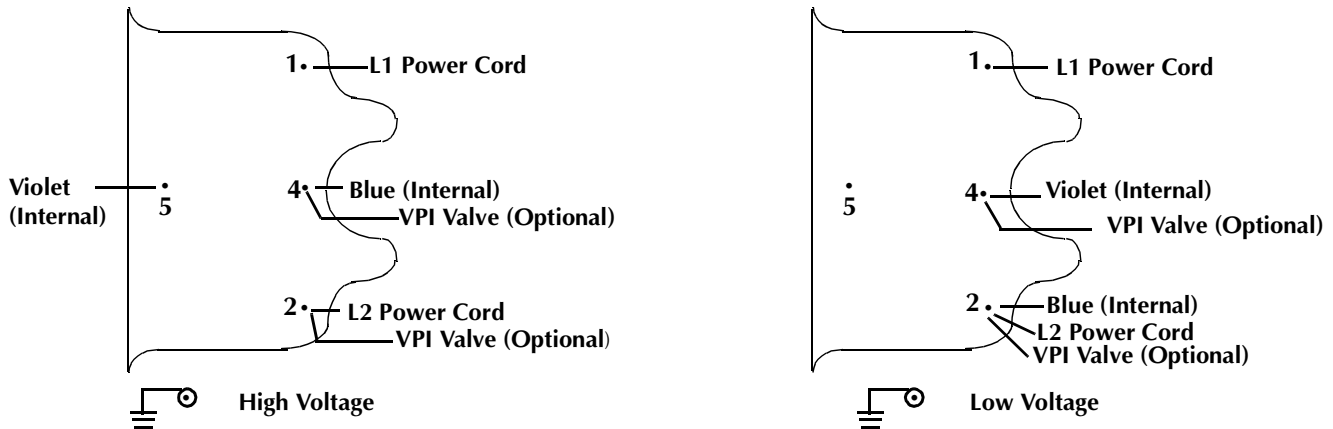
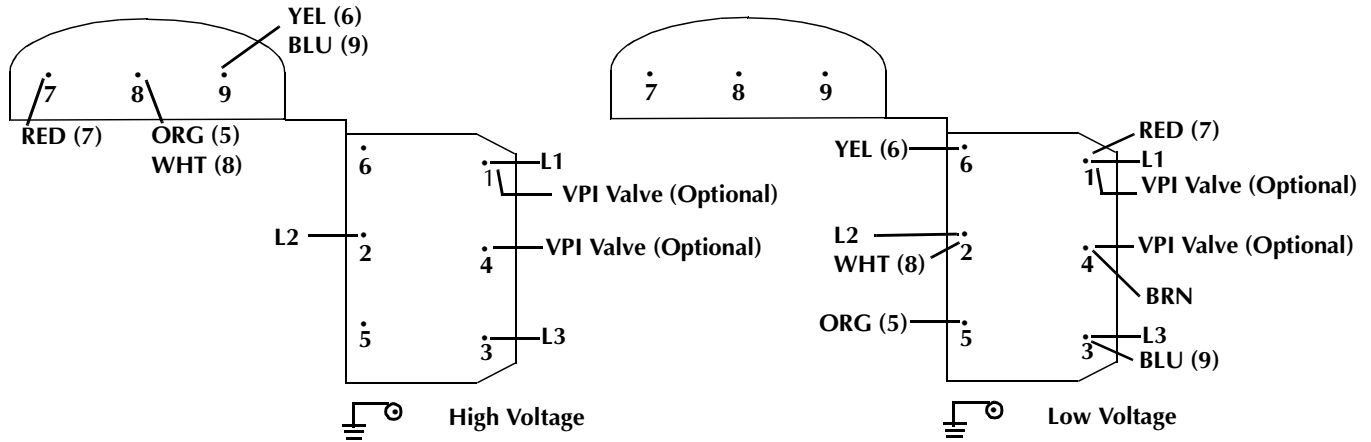

Figure 4 Single Phase Motor Electrical Connections
Figure 5 Three Phase Motor Electrical Connections
The pump can be configured for low voltage, 100 VAC to 115 VAC, or for high voltage, 200 VAC to 230 VAC. Low voltage exists between connection points "4" and "Line 2" whether the pump motor is configured for low or high voltage. Figure 4 shows the electrical connections for a single phase motor.
3. Refer to Figure 4 to connect the motor to match your supply voltage.
4. Wire L1 and L2 per Figure 4 using right angle flag connectors or ring connectors. Ensure that no exposed wiring is close to the electrical cover or to other terminals on the board.
6. Replace the motor electrical cover and secure it with the three (3) screws removed in step 2.
The pump can be configured for low voltage, 200 VAC to 230 VAC, or for high voltage, 380 VAC to 415 VAC and 460 VAC. As supplied from the factory, the pump is configured for low voltage. Figure 5 shows the electrical connections for a three phase motor.
3. Refer to Figure 5 to connect the motor to match your supply voltage.
4. L1, L2, and L3 are the power cord leads. Wire L1, L2 and L3 per Figure 5 using right angle flag connectors or ring connectors. Ensure that no exposed wiring is close to the electrical cover or to other terminals on the board.
6. Install the motor electrical cover and secure it with the three (3) screws removed in step 2.
Using the data in Table 19, verify that the VPI Valve chosen is compatible with the TriScroll supply voltage and frequency. Then, locate the proper wiring diagram to use (Figure 4 on page 36 or Figure 5 on page 37).
2. Connect the VPI Valve solenoid wire leads to the pump motor as shown in Figure 4 or Figure 5.